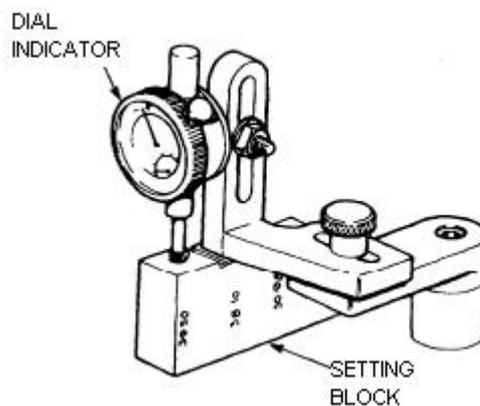

Figure 242 Zeroing the Dial Indicator
- t. Remove the keep-disc from the magnetized base of the dial indicator (Table 3, Serial 57), place the dial indicator and the setting block (Table 3, Serial 63) on a flat surface and zero the dial indicator stylus on to the setting block marked 39.50 mm (Figure 242).